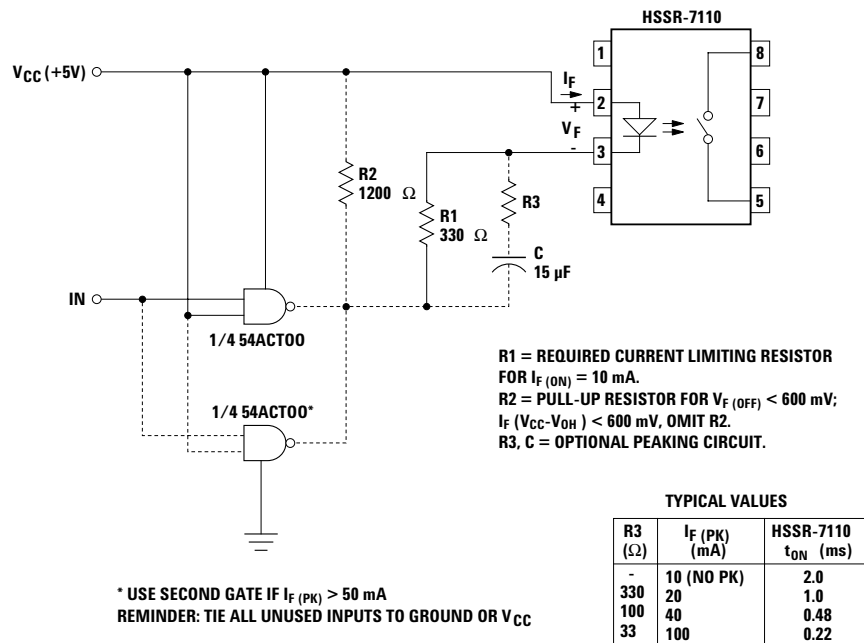

Figure 1. Recommended Input Circuit.
- For a faster turn-on time, the optional peaking circuit shown in Figure 1 may be implemented.
Input Circuit: The drive circuit of the electro-mechanical relay coil needs to be modified so that the average forward current driving the LED of the HSSR- 7110 does not exceed 20 mA. A nominal forward drive current of 10 mA is recommended. A recommended drive circuit with 5 volt V_{CC} and CMOS logic gates is shown in Figure 1. If higher V_{CC} voltages are used, adjust the current limiting resistor to a nominal LED forward current of 10 mA. One important consideration to note is that when the LED is turned off, no more than 0.6 volt forward bias should be applied across the LED. Even a few microamps of current may be sufficient to turn on the HSSR- 7110, although it may take a considerable time. The drive circuit should maintain at least 5 mA of LED current during the ON condition. If the LED forward current is less than the 5 mA level, it will cause the HSSR-7110 to turn on with a longer delay. In addition, the power dissipation in the output power MOSFETs increases, which, in turn, may violate the power dissipation guidelines and affect the reliability of the device.